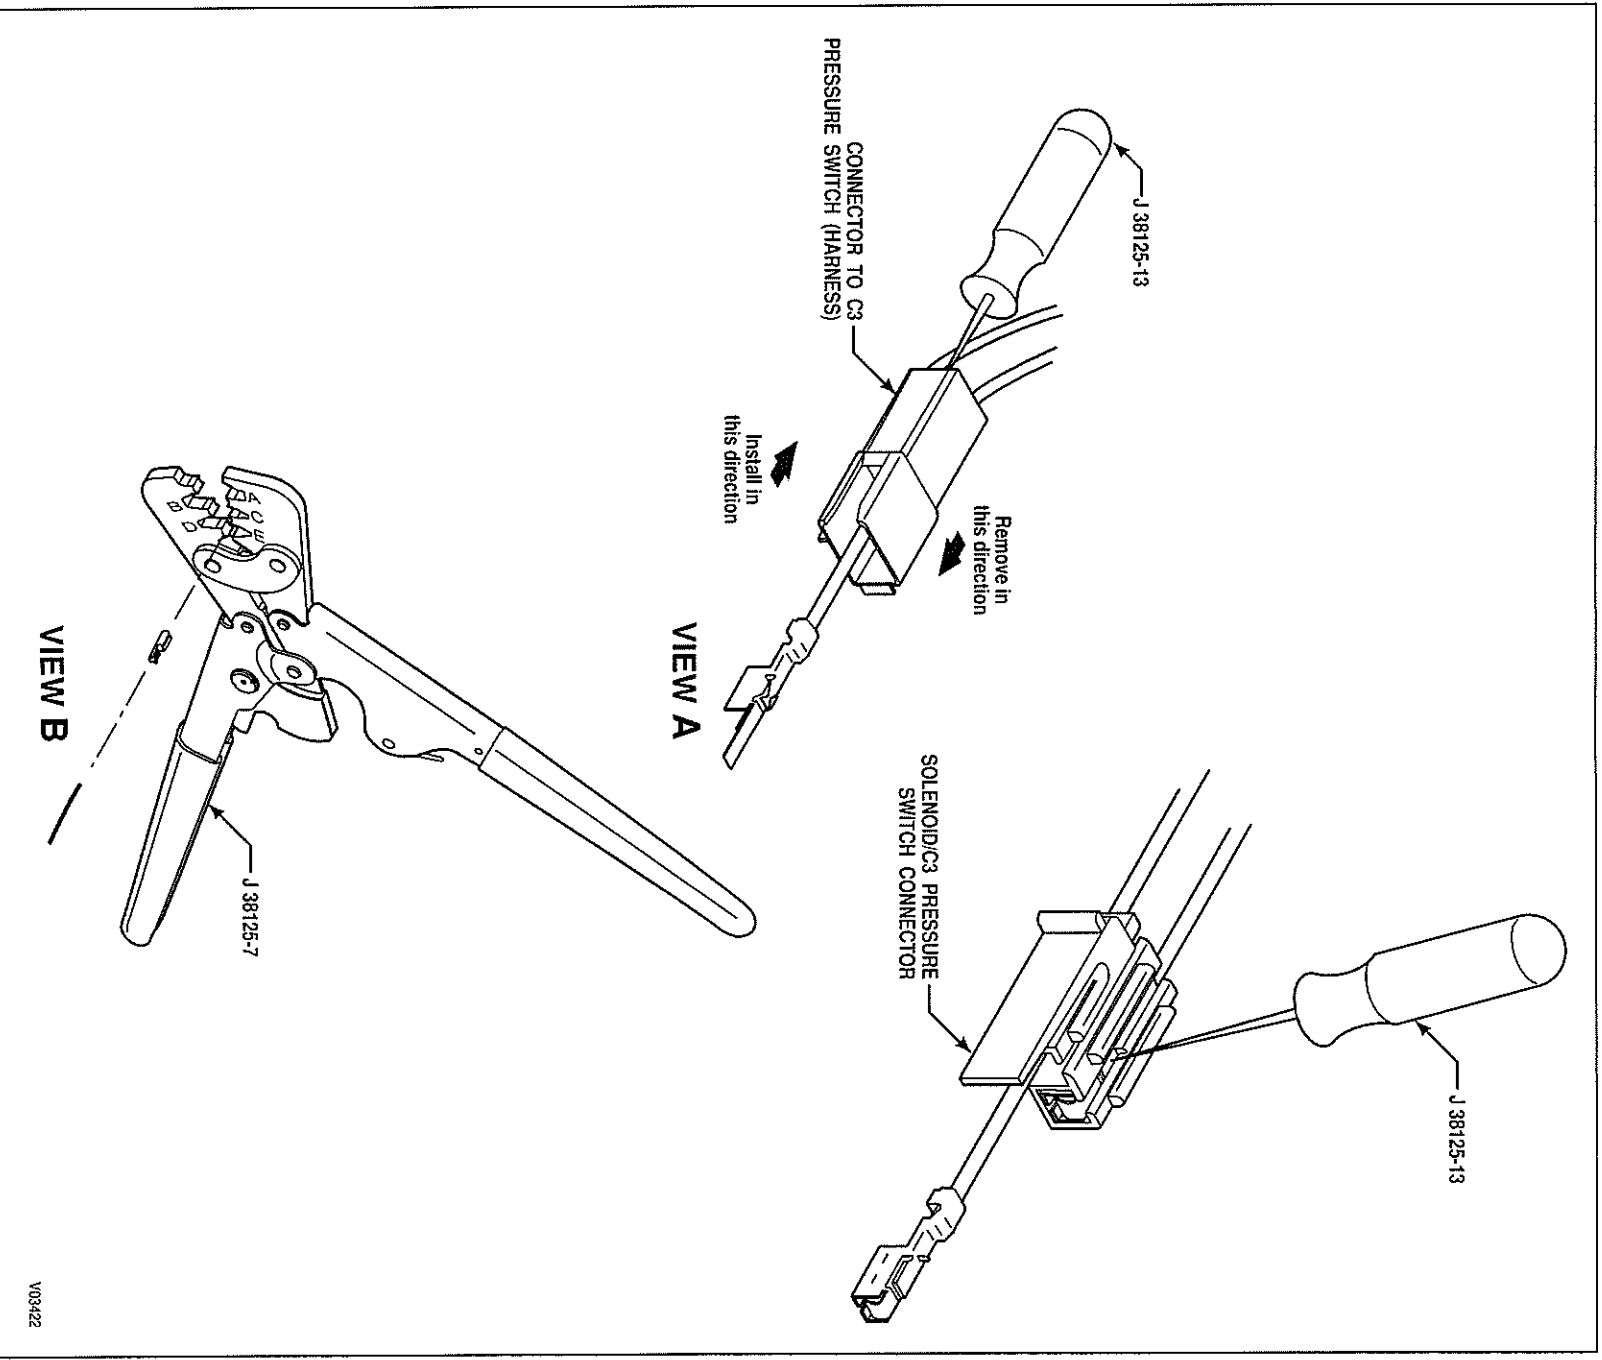

Figure E-9. Delphi-Packard Metri-Pack 280 Series Connectors—Pull-to-Seat (Internal Harness On/Off Solenoid and PS1 Pressure Switch)
1. Depress locktab on terminal (accessible in slot of connector) and push terminal out front of connector (Figure E-9, View A).
2. Place core crimp portion of terminal on bed of anvil indicated and squeeze crimper enough to hold terminal from dropping (Figure E-9, View B).